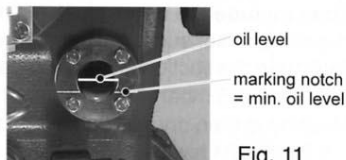

Fig. 11
- Oil level  $\frac{1}{4}$  to  $\frac{3}{4}$  of the sight glass (notch in sight glass = min. oil level, oil should not fall below this, fig. 11).